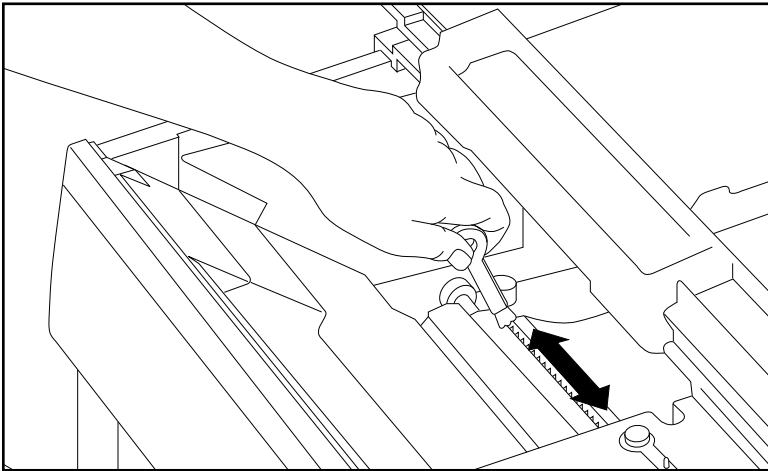

Fig. 6.11 Clean the Anti-Static Teeth Area
3. Check the anti-static teeth area for paper dust and scrap residue (fig. 6.11). If there is none, skip to the next section, “Installing the New Cartridge.”
- a. Locate and remove the green cleaning brush inside the right side of the printer (fig. 6.11)
- b. Locate the anti-static teeth and slide the cleaning brush back and forth across them several times to remove residue (fig. 6.11).
- c. Replace the brush in the right side of the printer (fig. 6.11).